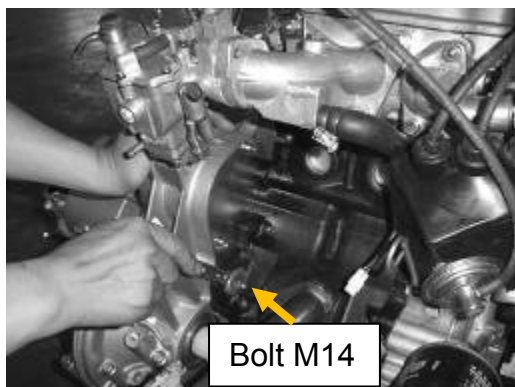
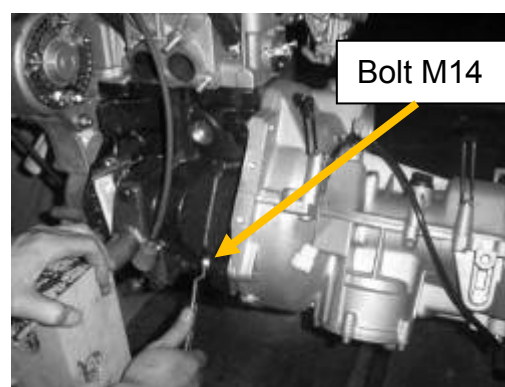

Figure 32
Figure 31
3. Remove two nuts (M14) on two side of transmission (See Figure 31, Figure 32)